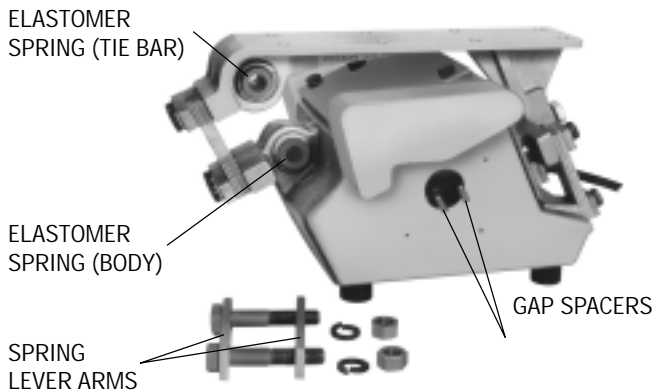

FIGURE 10
3. In replacing the elastomer springs, lay the unit on its side so that the chamfered ends of the spring holes are up. After making sure that the holes and their chamfered ends are clean and free from obstructions, lubricate the springs with a little water (never use a petroleum or silicone lubricant) and press them partly into place with the thumbs. Then tap the springs back into place, again using the small supporting block between tiebar and work surface. Make sure that the springs go in straight and that the steel inner sleeves protrude equally at both ends of both spring holes. See Figure 10.